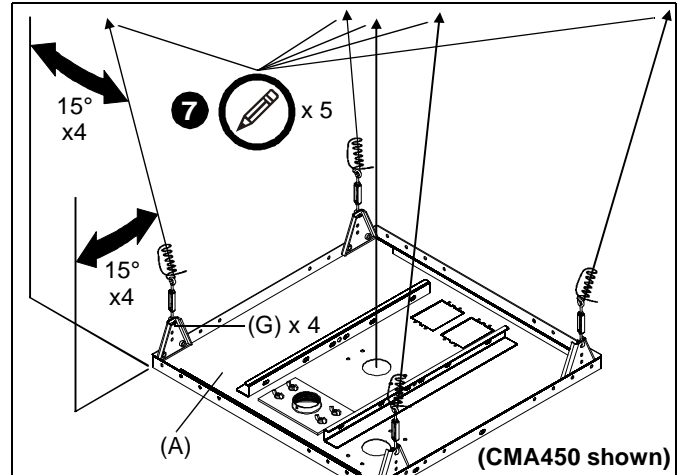

Figure 5
7. Examine ceiling structure (concrete, steel truss, or wood) above tray (A) to identify the following (See Figure 5):
- Four support wire anchor locations, each approximately 15° outboard of corresponding hanger bracket (G). Mark locations with pencil.
- One safety cable anchor location directly above center of tray (A). Mark location with pencil.
NOTE: Hanger brackets (G) and turnbuckles (J) are installed later; they are shown in Figure 5 for reference only. (See Figure 5)